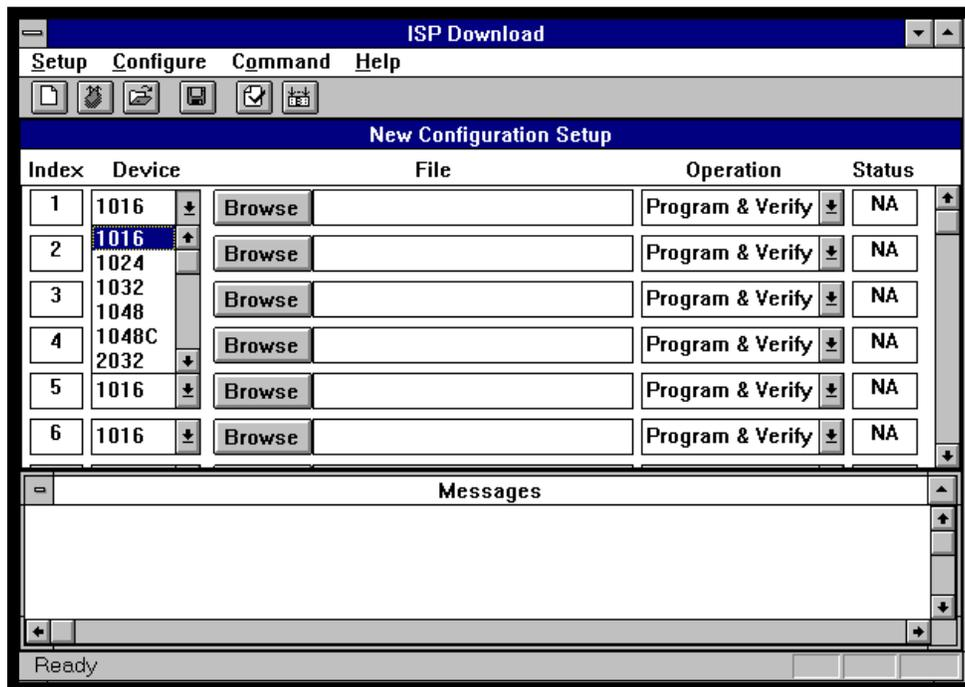

Figure 3-6. Device Pull-down Menu
3. Select the device type in the **Device** field. Use the pull-down arrow to activate the pull-down menu (Figure 3-6).